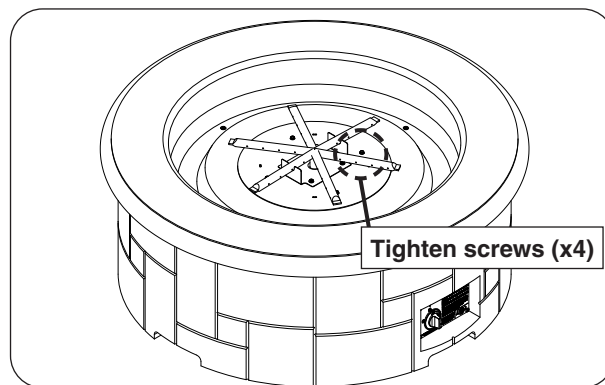

Fig. 37-3 Install burner
2. Use a  $\frac{5}{16}$ " nut driver to fasten the burner to the base (see Fig. 37-3).